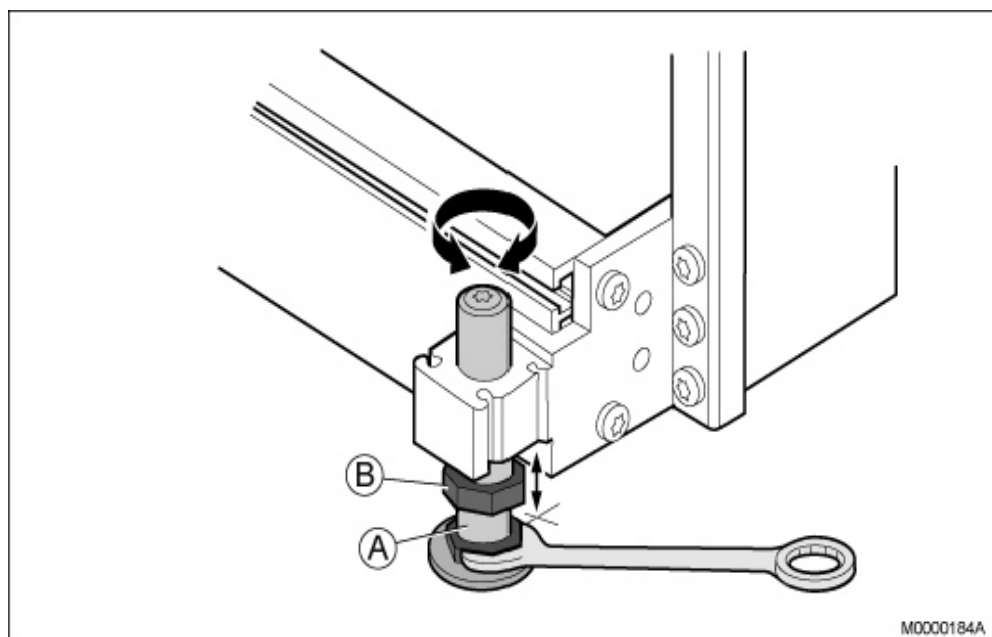

Figure 3: Leveling the Cabinet
1. Level the cabinet by adjusting the feet (A) using the 24-mm U-ring wrench, see Figure 3:Leveling the Cabinet on page 10
3. Tighten the locking nuts (B) on all feet using the 24-mm U-ring wrench, see Figure 3:Leveling the Cabinet on page 10
1. Insert three spacers (B) in the holes in the yoke (A), see Figure 3 Installing the Tip Protection on page 10
4. Align the holes in the yoke with the two anchoring holes (X) in the floor.